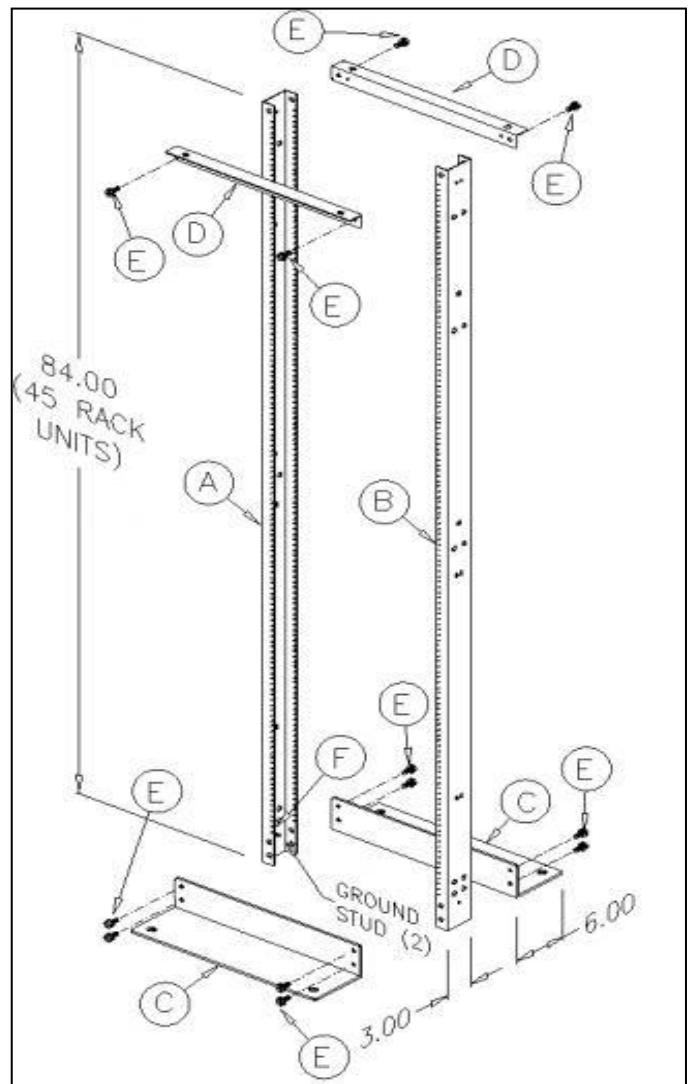

Figure 1
3. Position the rack top angle (Item D) between the frame channels at the top. Orient the angles as shown in Figure 1.